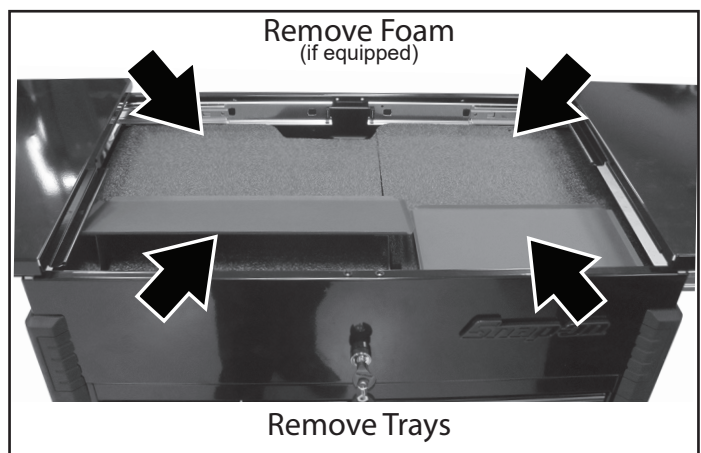

Figure 2
5. Remove the packing foam (if equipped), then the keyboard and mouse trays (Figure 2).